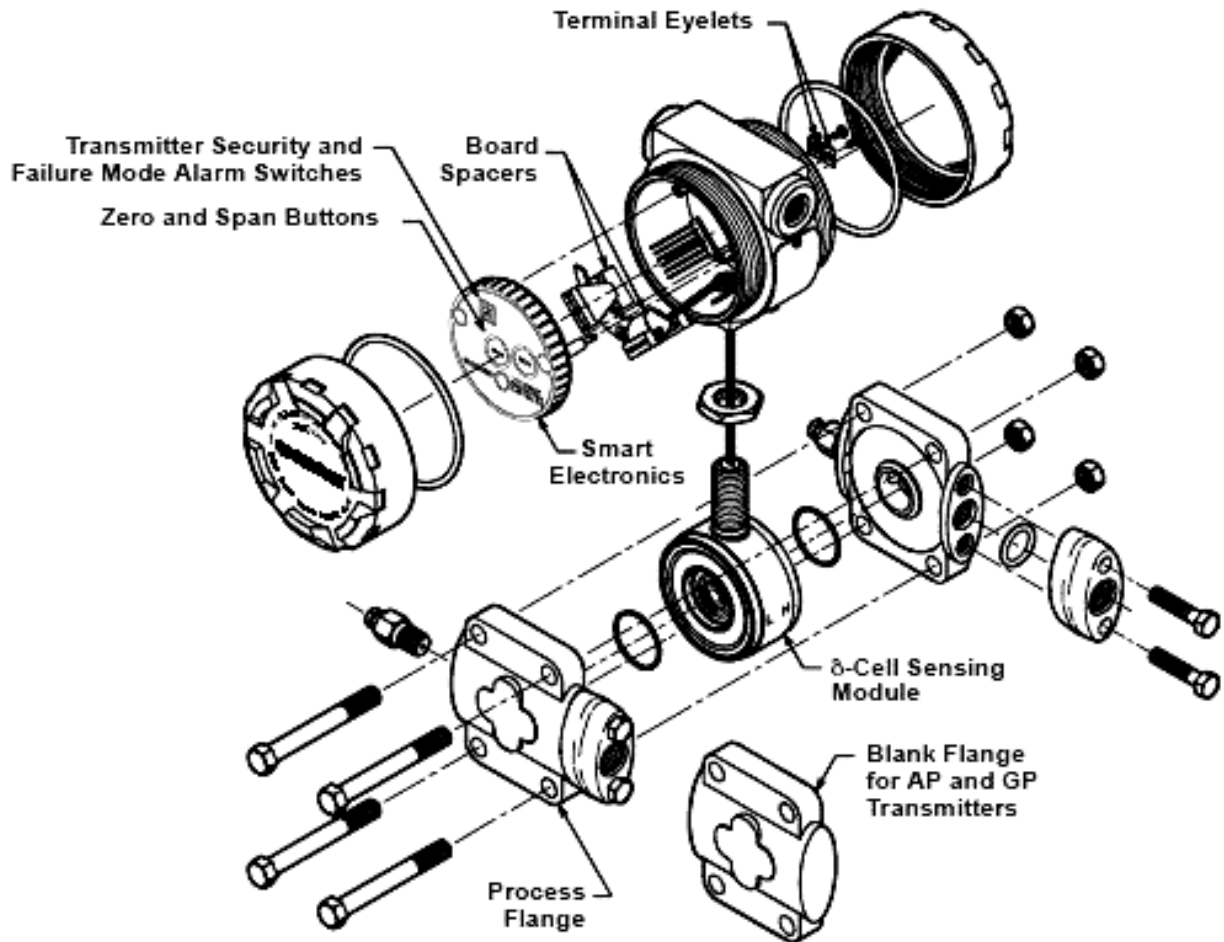

Figure 6 - Rosemont 1151 Pressure Transmitter Cutaway
The transmitter is designed with a dual-compartment housing; one (1) compartment contains the electronics module, and the other compartment contains all wiring terminals and the communication receptacles. **Figure 6** shows a Cutaway of the Pressure Transmitter.